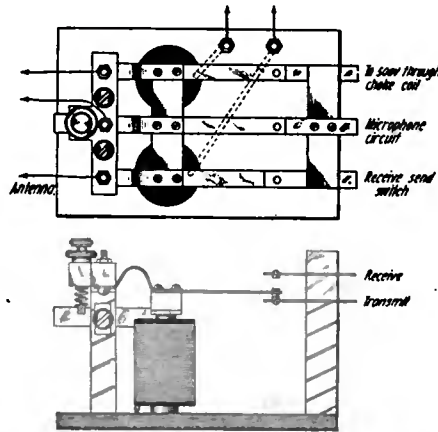

Figure 3—Plan and side views of the relay used as a send-receive switch
5. Change-over relay—This relay is an electrically operated send-receive switch, and is shown in figure 3. Its operation is controlled by a small push button on the upright portion of the desk stand transmitter. The relay used is converted from an ordinary 4-ohm telegraph sounder. The functions of the change-over relay are as follows when the push button is pressed: